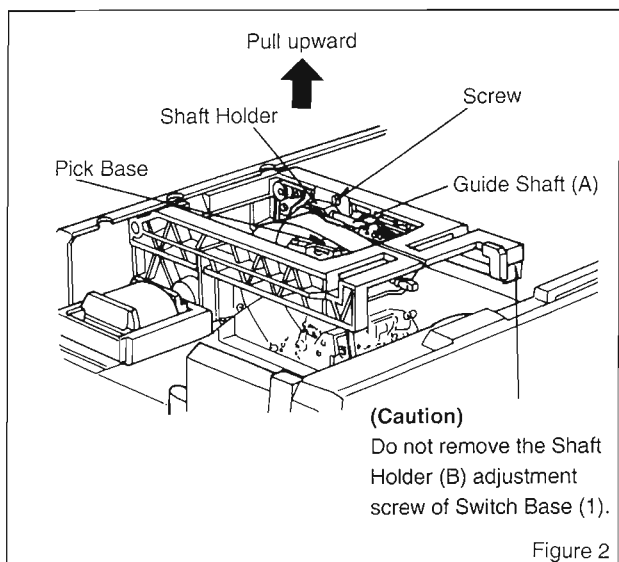

Figure 2
① Pick Base
2. Set Guide Shaft to Pick Base, mount Pick Base downward to Traverse Base and secure the Shaft Holder with a screw (Refer to Figure 2).